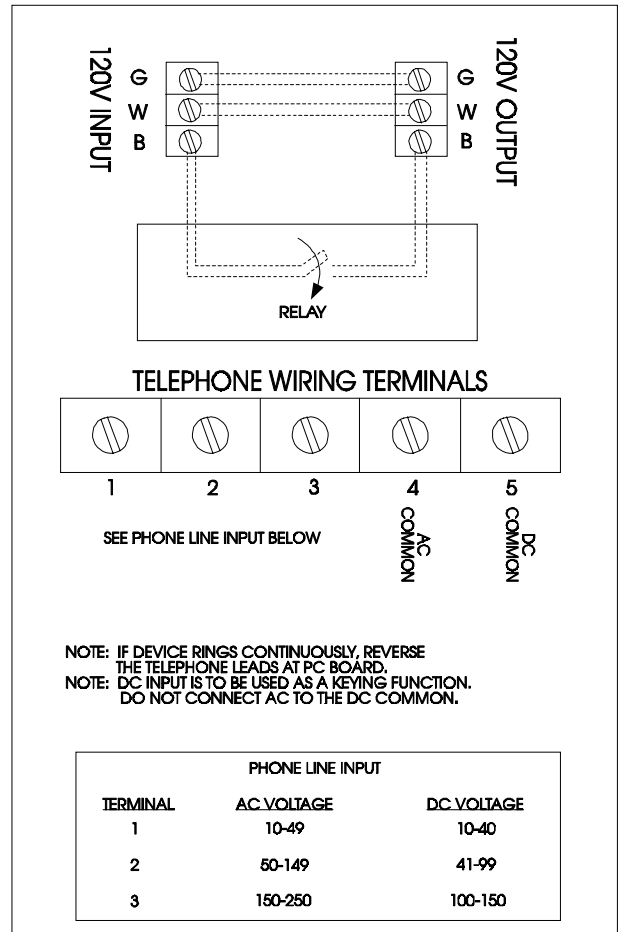

Figure 4. Electrical Connections
3. Wire as shown in Figure 4.
3. Attach incoming and outgoing conduit to relay housing and wire as shown in Figure 4.